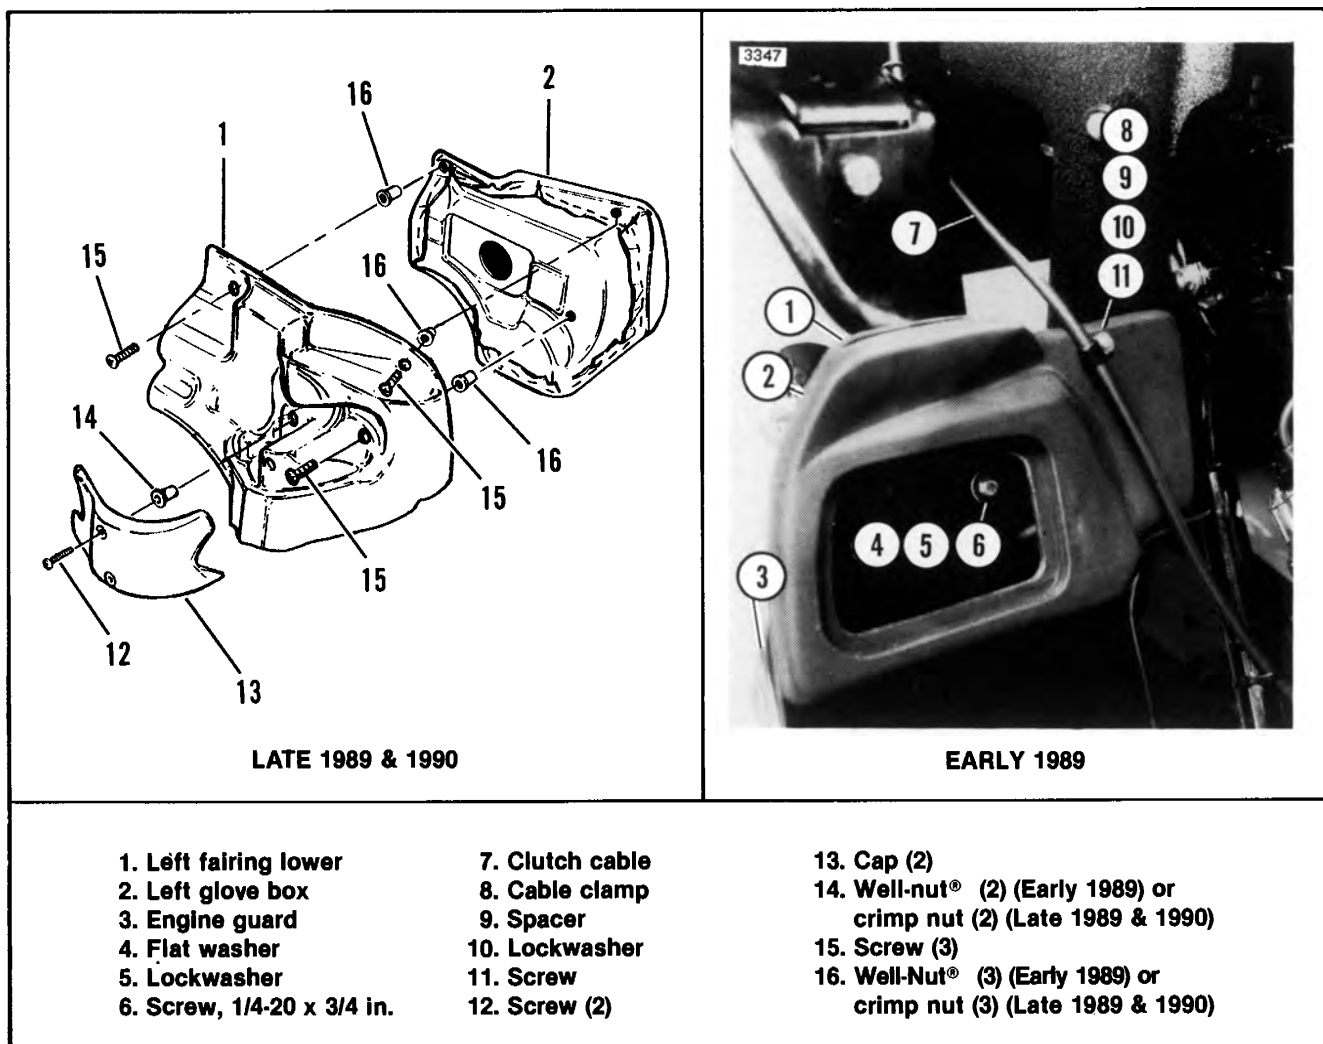

Figure 2-147 FLTC Ultra Fairing Lower and Glove Box Mounting
1. See Figure 2-147. Remove screw (11), lockwasher
(10), cable clamp (8) and spacer (9) holding clutch cable.
1. See Figure 2-147. Remove two screws (12) and fairing lower cap (13).
3. Remove three screws (15) and glove box may be removed.
2. See Figure 2-147. Remove screw (6), lockwasher (5) and flat washer (4). (On early 1989 models, glove box and fairing lower are secured by screw (6).)
1. See Figure 2-147. Reverse the appropriate REMOVAL steps to install glove boxes and/or the fairing lowers.